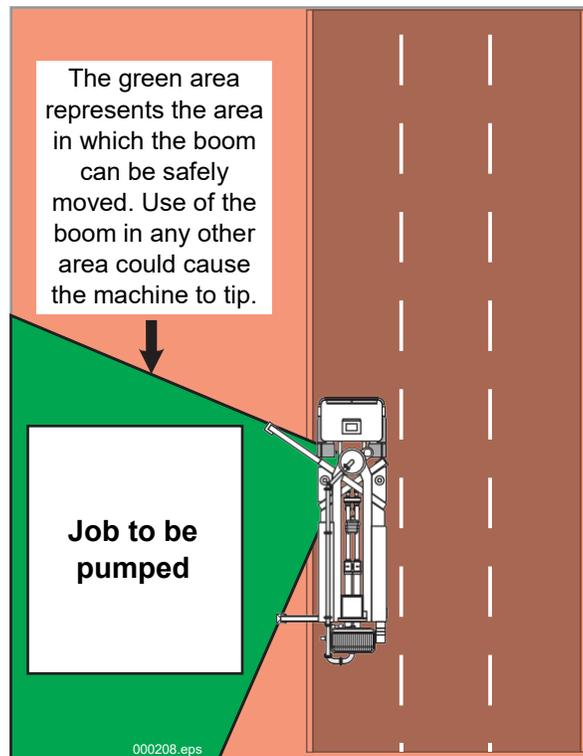

Figure 1
“Shorttrigging” describes the act of not extending the outriggers on the side away from the pour (Figure 1). Shorttrigging is not recommended, but under certain conditions it may be required, and can be done safely if proper procedures are followed. If it is not possible to extend the outriggers on the side **away from the pour**, the unit can be set-up with the outriggers jacked down but not extended.
3. Fully extend and jack the outriggers on the side of the pour (Figure 1). Use proper cribbing for the soil conditions.
6. At no point during the pour should the boom be moved outside the area between the center lines of the fully extended outriggers (Figure 1).